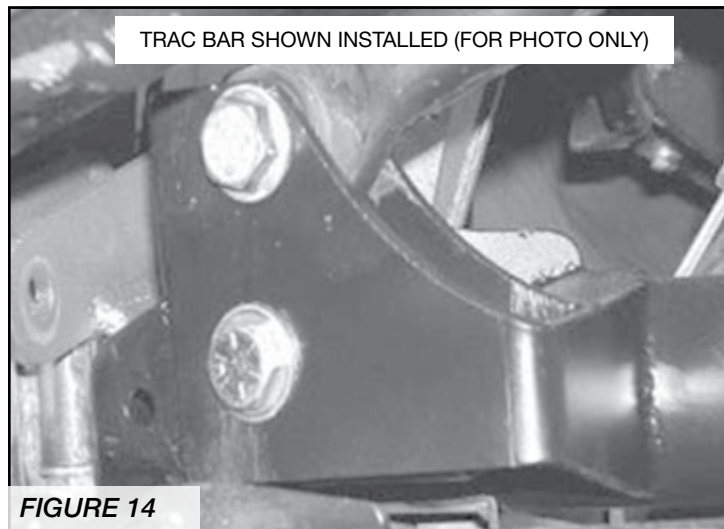

FIGURE 14
11. Once gusset kit has completely cooled, paint all bare metal areas. **SEE FIGURE 14.**